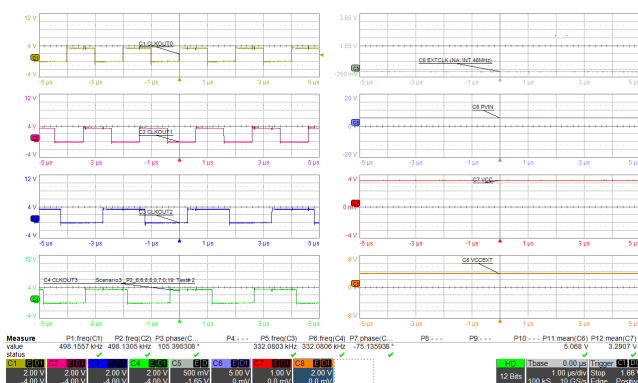
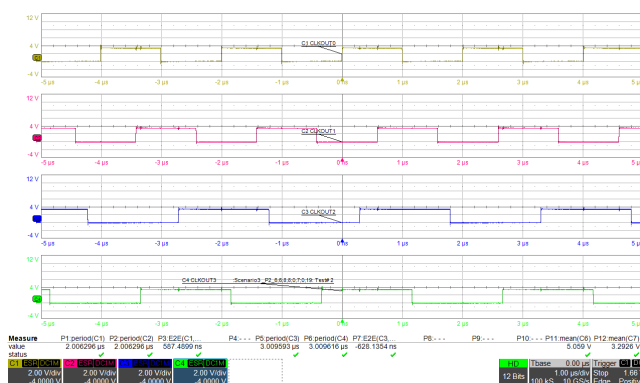

Figure 20. Example Scenario 3: Frequency and Phase
Figure 21. Example Scenario 3: Period and Delay
- Scenario 3 (Figure 20 and Figure 21) – Two outputs have the same frequency, the other two outputs are at a different same frequency (such as, two outputs at 500kHz, two other outputs at 333kHz)